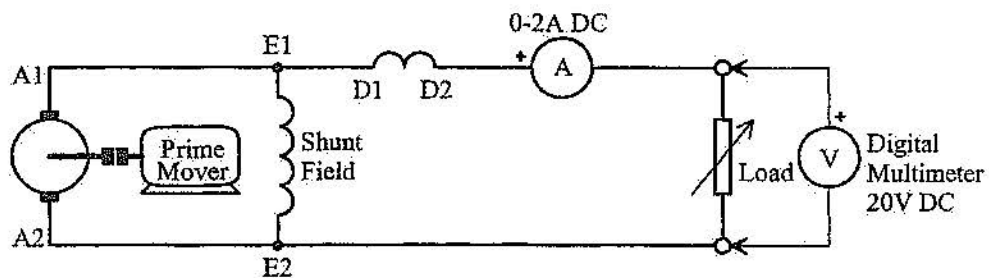

Figure 4
1. Connect the circuit as shown in figure 4.